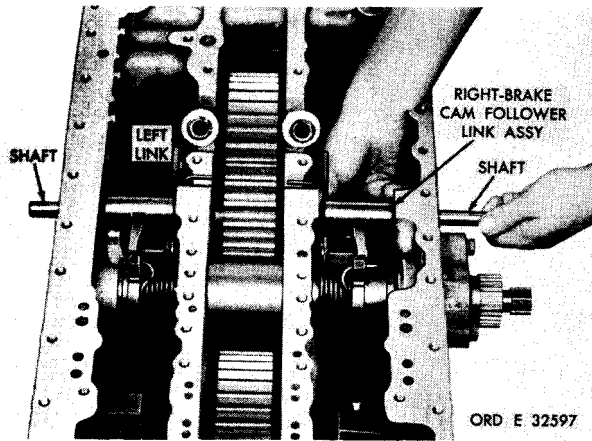

Figure 178. Removing right-cam follower link assembly shaft
k. Remove the right-cam follower link shaft (fig. 178).
l. Remove the left-cam follower link shaft (fig. 178).